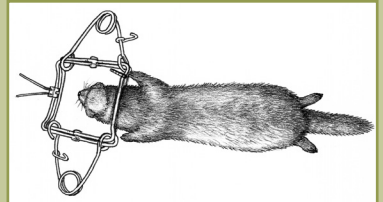
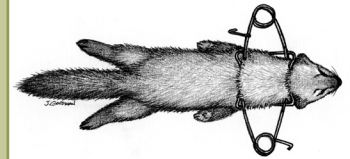

Figure MT2a. Proper strike location
Figure MT2b. Proper double strike location
- Should be set so that the rotating jaws capture the animal by closing on the top and bottom of the captured animal's neck (Figure MT2a) or use a double strike set (Figure MT2b).